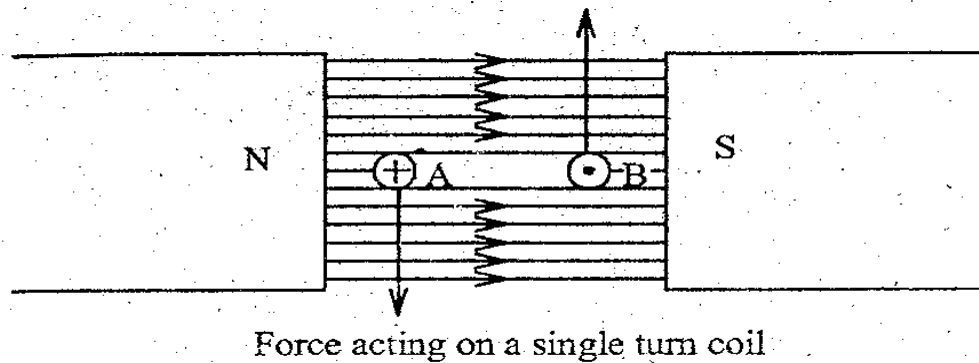

Fig.4.28
If the current in the conductor is reversed (current towards the observer (O), the strengthening of flux line occurs below the conductor and the conductor will be pushed upward as shown in fig 4.28